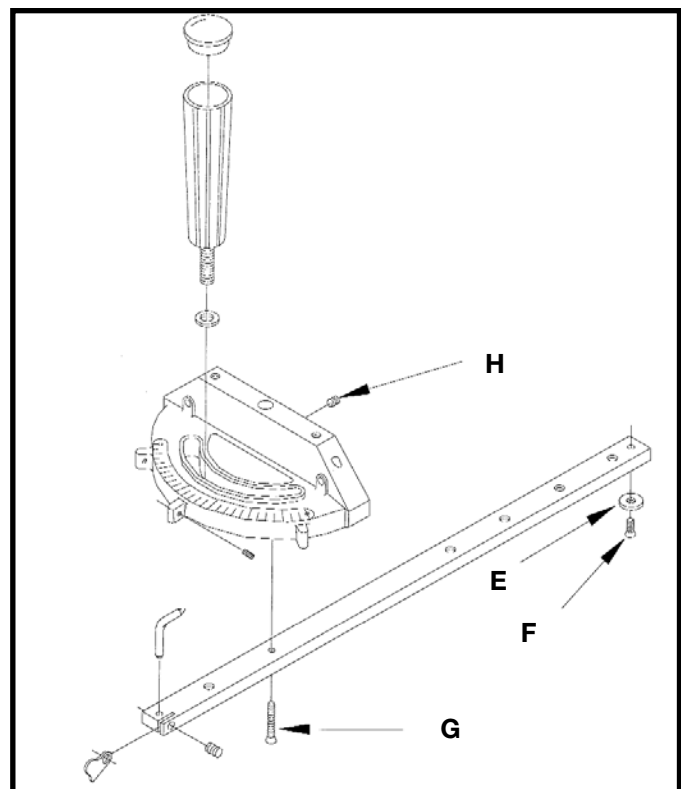

Fig. 72
5. The miter gage is equipped with a special washer (E) Fig. 72, and flat head screw (F), which are to be assembled to the end of the miter gage bar.
6. The head of the miter gage pivots on a special tapered screw (G) that **fastens** the head to the miter gage bar. If the miter gage head does not pivot freely, or pivots too freely, adjust it by loosening set screw (H) Fig. 72, and turning the screw (G), in or out. **Be certain to tighten screw (H) after adjustment is made.**